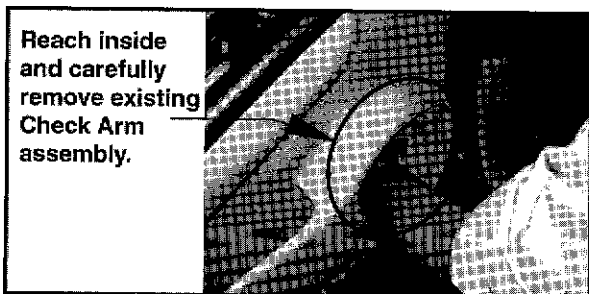

Figure 8
11. Reach inside the door panel and support the back of the Check Arm assembly. Carefully remove the Check Arm assembly through the opening in the door (Figure 8).